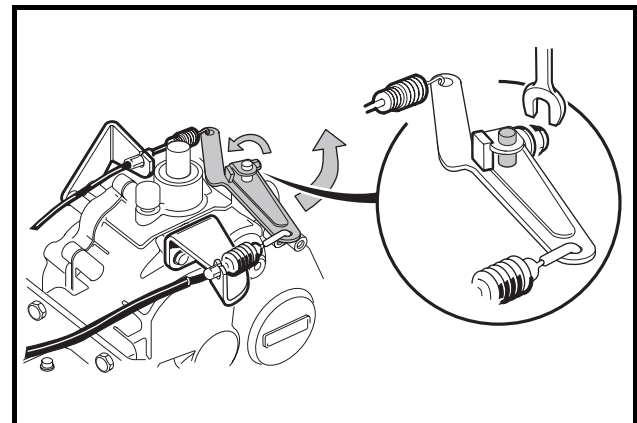

Figure 18-37 Governor Arm
8. Install governor lever arm on governor shaft (**Figure 18-37, Page 18-14**).
- 8.1. With the governor lever arm loose on the governor shaft, turn the governor arm shaft counterclockwise until it stops. Then pull the governor lever arm rearward until the carburetor throttle is in the "wide open throttle" (WOT) position (**Figure 18-37, Page 18-14**).
- 8.2. While holding the arm and shaft in the fully counterclockwise position, tighten the governor arm lever nut to 35 in-lb (4.0 N·m) (**Figure 18-37, Page 18-14**).